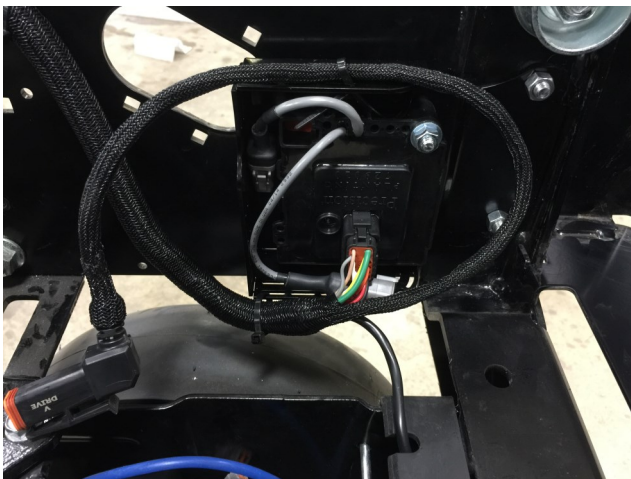

Figure 5a
3. Tie all loose and unused cables to the SRM mounting bracket using the available slots in the bracket (see Figures 5a and 5b).